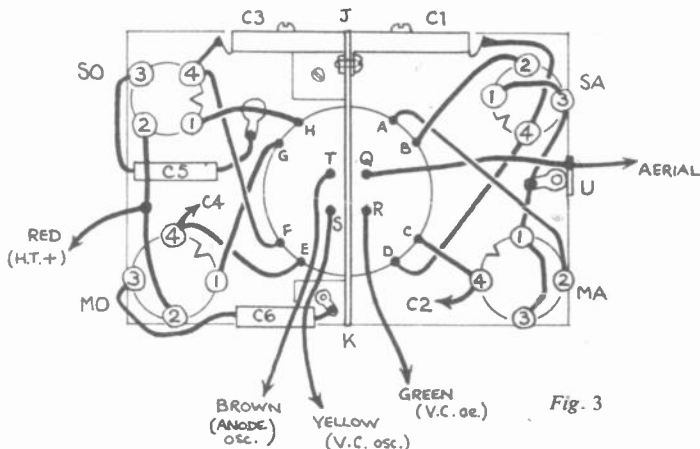

Fig. 4
The trimmers C1 and 2, C3 and 4, can now be bolted on to the metal support (P), and this latter bolted in turn to the main chassis of the coil pack. Fig. 4 shows a top view of the coil pack with trimmers identified.